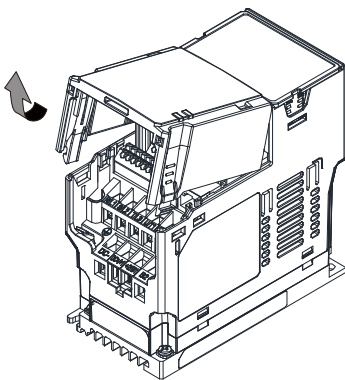

Figure 8-14
1. Turn off the power of the motor drive and then remove the front cover, as shown in Figure 8-14.